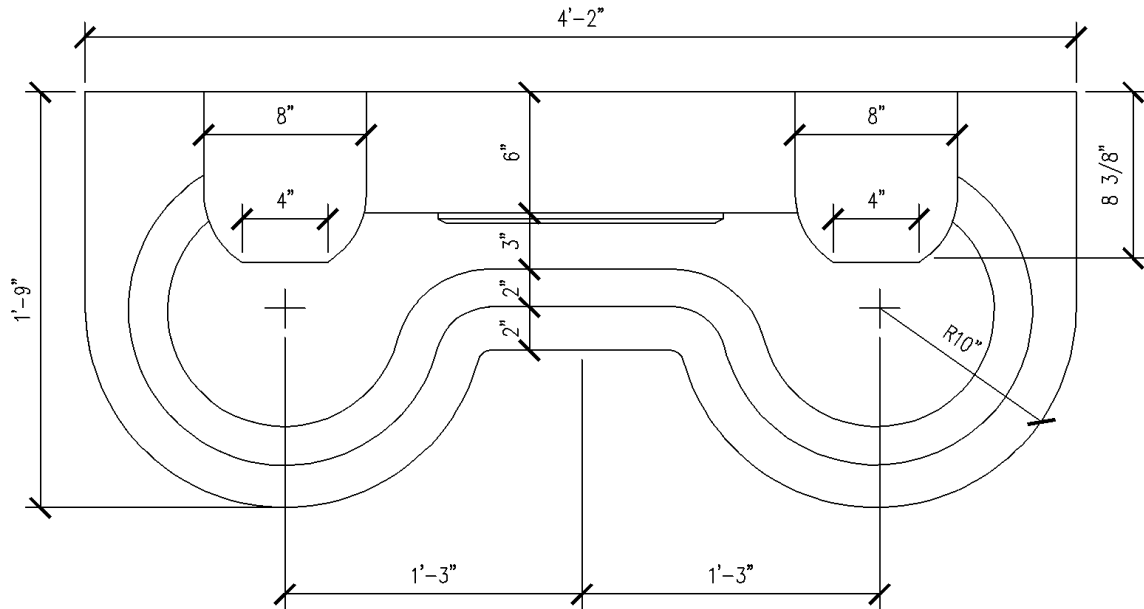

Figure 4-1.5 Draw this lavatory system in a new drawing file with origin centered on the back side
12. In a new drawing, draw the *Lavatory System* shown in **Figure 4-1.5**; make sure the origin is at the back and centered.